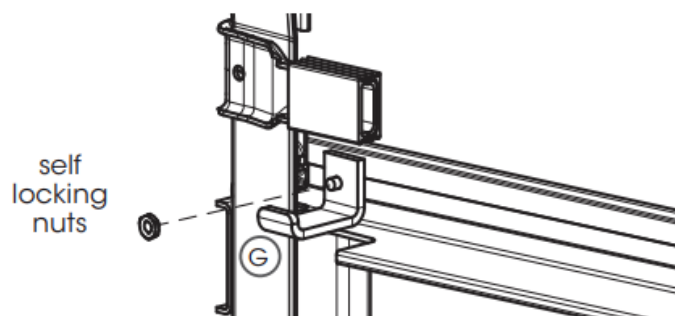

Fig: 2.5.4
- b) Fit bottom rail stops **G** using self locking nuts provided. Allow the door to rise and rest against the head stop (Fig 2.5.4)